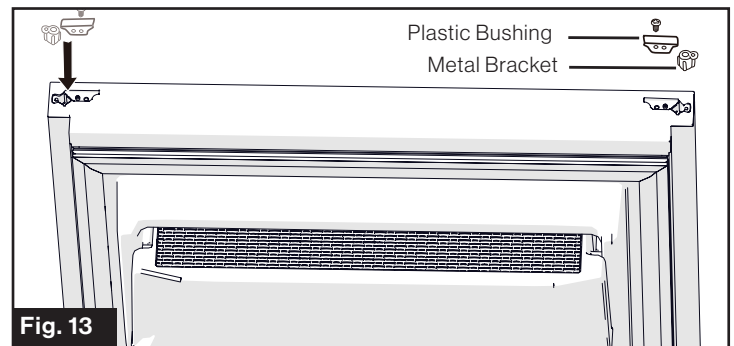

Fig. 13
- Reverse the Metal Bracket and Plastic Bushing on the bottom of Refrigerator Door. (Fig. 13)